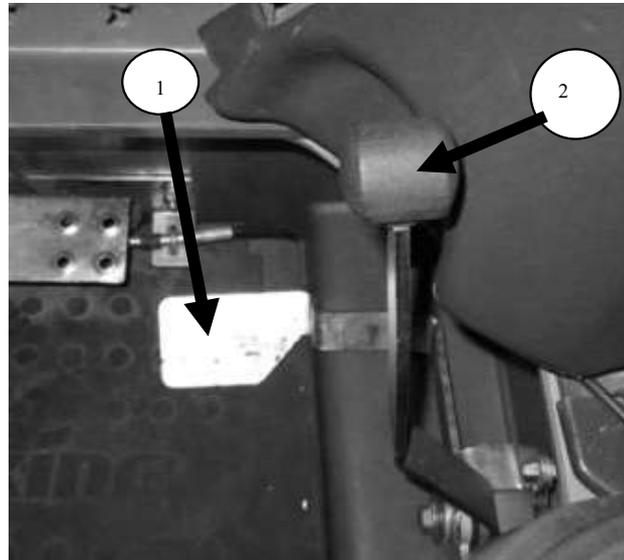

Fig. 18 Rear Window
1. Remove the rubber batten, and let it pass through the nameplate of escape window. Pull the nameplate, and the front part of the rubber batten can be removed, as shown in Fig. 18.